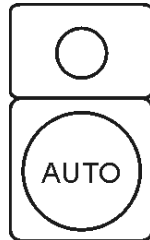

Figure 17. Auto Button
1. Press the **AUTO** button (Figure 17) on the digital controller to place the generator in the auto mode. This mode allows the controller to monitor the remote-start contacts.
If the generator is to be connected to a building's AC power source via an automatic transfer switch (ATS), press the **AUTO** button (Figure 17) to place the generator in auto mode.